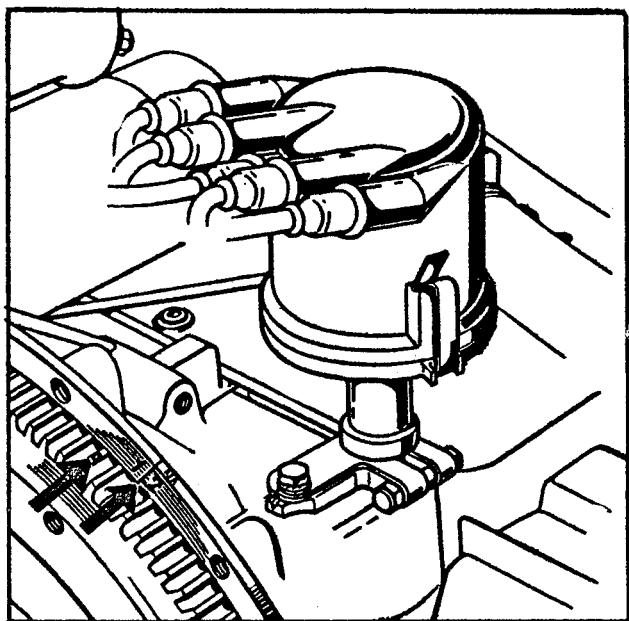

Fig. 14 - Flywheel Position for Timing the Injection.
- Turn the engine flywheel until mark "0", stamped on a tooth, is two teeth after mark $1/2$ on the flywheel housing (fig. 14), paying attention that the ignition distributor rotor arm is aligned with the cable to cylinder No. 2. Should it not be so, turn the crankshaft a full turn until mark "0" is again two teeth after mark $1/2$.